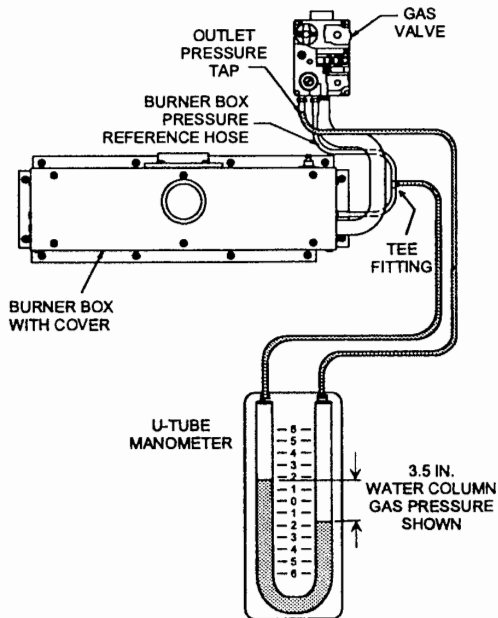

FIGURE 24 - READING GAS PRESSURE WITH BURNER BOX COVER IN PLACE
- a. Reading the gas pressure with the burner box cover in place - Disconnect the pressure reference hose from the right side of the burner box. Using a tee fitting and a short piece of hose, connect the negative side of the manometer to the burner box pressure reference port as shown in Figure 24. Connect the positive side of the manometer to the adapter previously installed in the gas valve as shown in Figure 24.